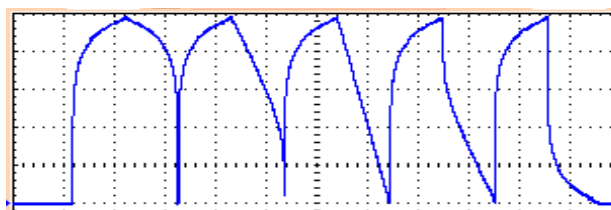

Figure 8d: Curves 13-17
- Last 4 curves are asymmetrical with logarithmic attacks and varying decays (log->expo) *Figure 8d*